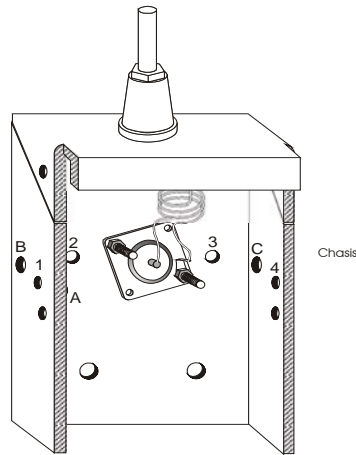

Figure 1
- 1- Refer to Figures 1 and 2. Insert one of the 6-32 x 1/2 screws into hole 1 and place a 6-32 nut on the screw. The screw should be installed so that the nut is on the inside.
- 3- You are now ready to install three of the radials. First position the chassis as shown in Figures 1 and 2. Next insert a radial, straight end first, into hole A. All radials must be inserted through the hole from the inside of the chassis. The hooked end can now be secured with the screw in hole 1.